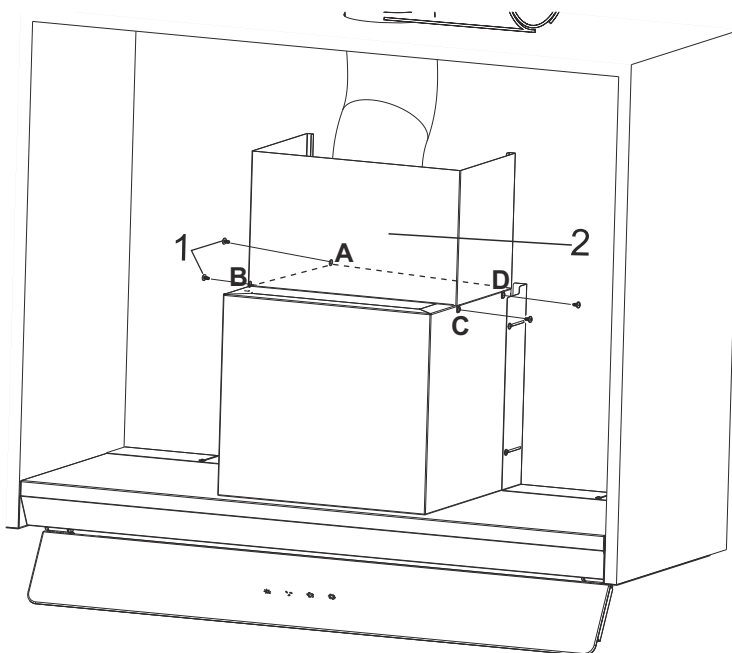

Fig. 19
- 5.** → Place the supplied sheet metal flues on the product (Fig. 19).
Using the 4 connection screws through the A, B, C, D points to the appliance body (Fig. 19).